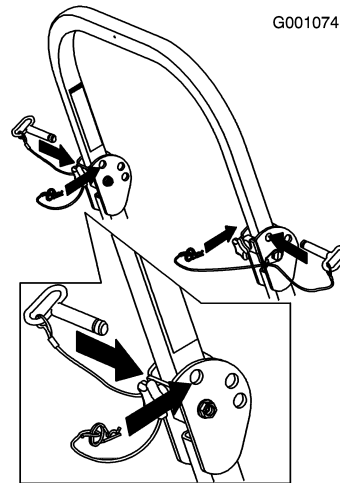

Figure 9
5. Raise the roll bar into the upright position and secure it with the pins and hairpin cotter pins fastened to the lanyards (Figure 9).